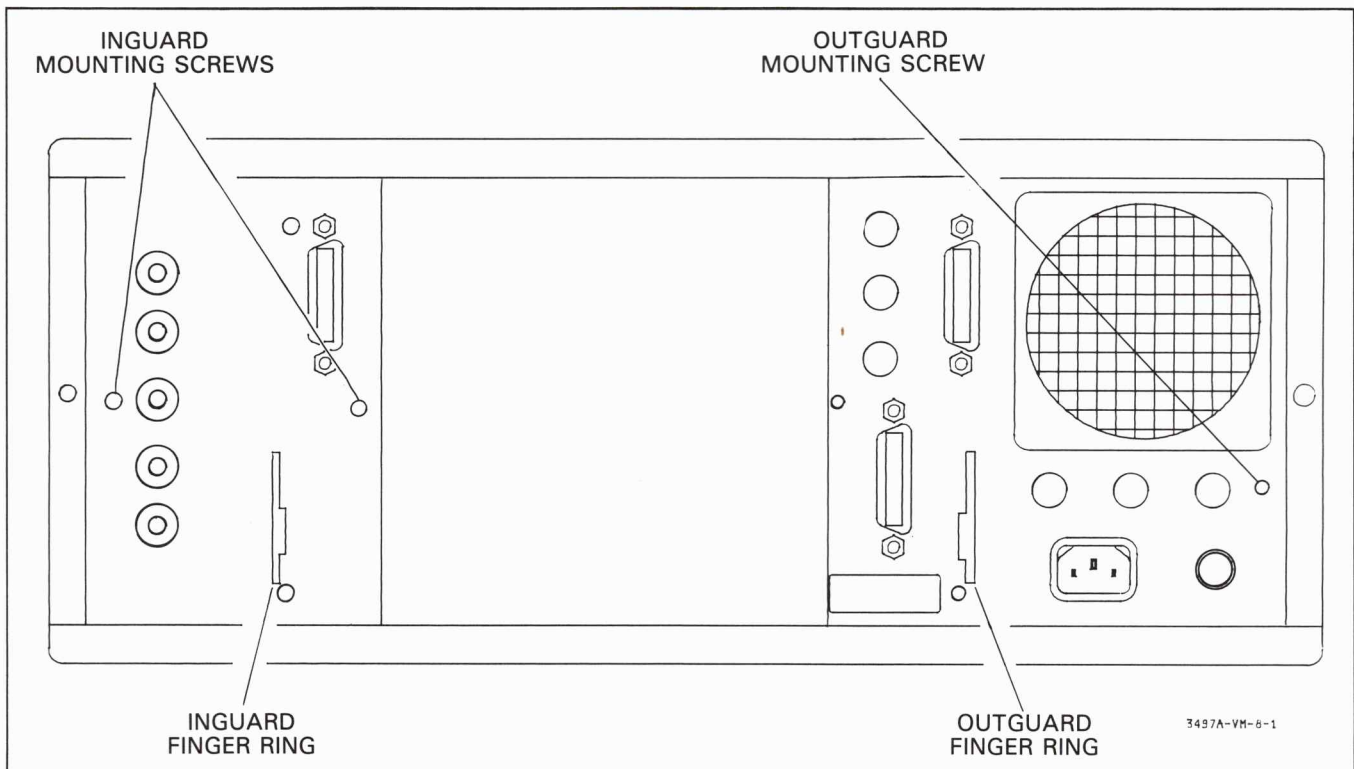

Figure 2-4. Outguard and Inguard Mounting Screws and Finger Rings
- Locate the screw on the outguard rear panel that holds the logic board in place (see Figure 2-4). Loosen the screw but do not remove it. It is held in place by a rubber grommet.
- Use the built-in finger ring, shown in Figure 2-4, to pull the board from the motherboard slot connector. The board can be completely removed from the
c. Locate the rear panel mounting screw, shown in Figure 2-4, and tighten the screw.
c. Locate the two screws on the inguard rear panel that hold the inguard controller board in place (see Figure 2-4). Loosen the screws but do not remove them. They are held in place by a rubber grommet.
d. Use the built-in finger ring, shown in Figure 2-4, to pull the controller board from the motherboard slot connector. This completes the procedure to remove the inguard controller board. To reinstall the board, go to paragraph 2-39. To install the voltmeter option, continue with the next paragraph.
- c. Locate the rear panel mounting screws, shown in Figure 2-4, and tighten the screws.